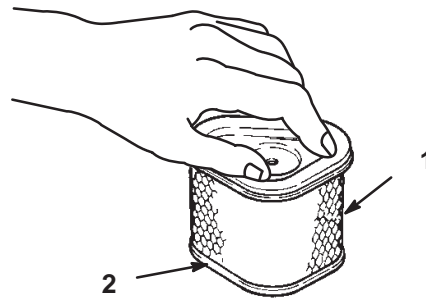

Figure 18
1. Lightly tap the element on a flat surface to remove dust and dirt (Fig. 18).